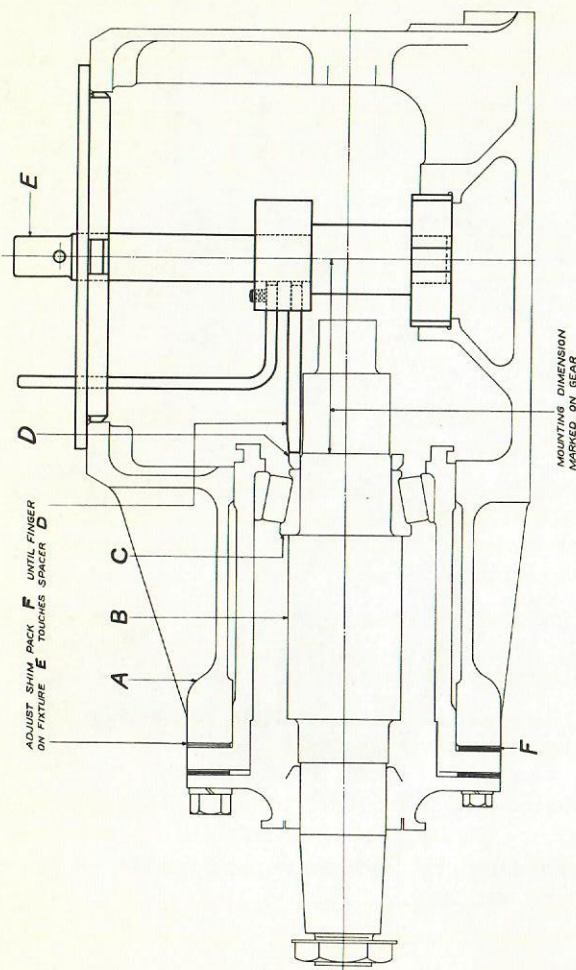

Fig. 5-12
7. Install mounting fixture, Cat. 6744046G1 in place of vertical shaft (only if new gears are being assembled). See Fig. 5-12. With lower end of fixture mounted in bottom bearing housing of vertical shaft and upper ring registering in top housing bore, use pointer on fixture with feelers to obtain correct dimension from center-line of vertical shaft to face of spacer on horizontal shaft. Adjust shim pack between sleeve flange and gear box to produce the dimension marked on the gear within limits of plus or minus 0.001 inch.
6. Install mounting fixture, Cat. 6744046G1 in place of vertical shaft (only if new gears are being assembled). See Fig. 5-12. With lower end of fixture mounted in bottom bearing housing of vertical shaft and upper ring registering in top housing bore, use pointer on fixture (with feelers) to obtain correct dimension from centerline of vertical shaft to face of spacer on horizontal